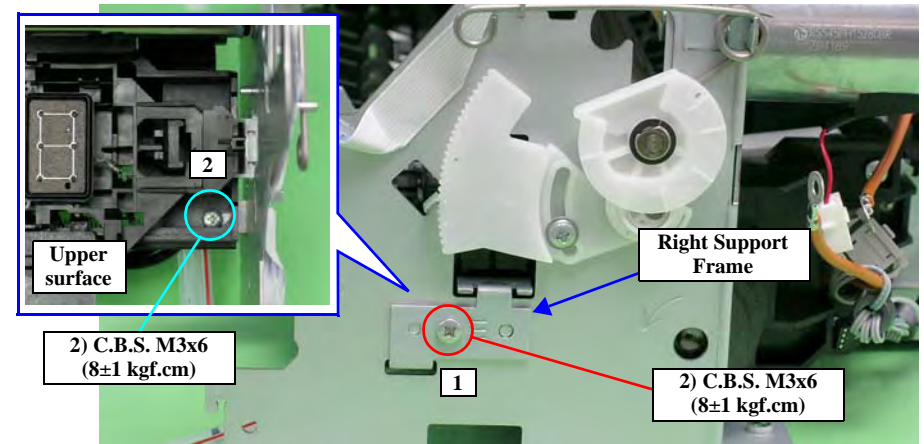

Figure 4-123. Removing the Right Support Frame
- Tighten the screws in the order shown in Figure 4-123